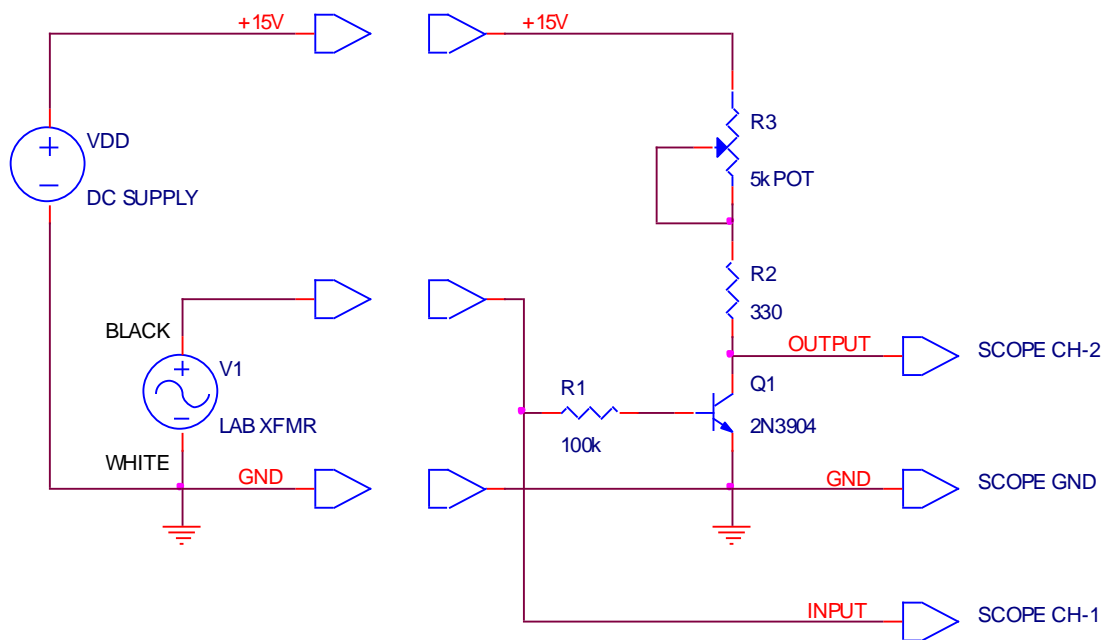

Figure E2.1
Set-Up Using the solderless breadboard, construct the circuit shown in Fig. E2.1 using the following components:
Turn the power switch OFF on the laboratory transformer and plug the unit into a 120 VAC line receptacle. Connect the transformer to the circuit board using leads from the black and white banana jacks as shown in Fig. E2.1. This will apply a 10 V peak sinewave to the circuit once the power is turned on.
Configure a DC power supply to implement the VCC DC source in Fig. E2.1. Use a pair of squeeze-hook test leads to connect the output of the power supply to your breadboard. Turn the DC power supply ON and initially adjust its output to +15.0 Volts. Initially adjust the R3 potentiometer for a value of zero ohms, i.e. the series combination of R2 + R3 should be just R2 = 330 Ω .
Connect a 10 \times probe to the BNC connectors on each of the two input channels of an oscilloscope. Connect the probe from Ch-1 to the input end of R1 to monitor the input signal, and connect the probe from Ch-2 to the output node between R2 and Q1 to monitor the output signal, as shown in Fig. E2.1. Both oscilloscope probe ground leads and the ground lead from the DC power supply should all be connected to the emitter lead of transistor Q1. Configure the oscilloscope to display both channels with a vertical scale of 5 V/div, which includes the attenuation of the 10 \times probes. Set the input coupling of both channels to DC, and make sure that channel-2 is not inverted. Set the timebase to 5 ms/div. Set the trigger mode to AUTO with a source of Ch-1. Finally center both traces on the center of the screen by switching the input coupling for each channel to GND, moving each trace to the center hairline of the screen using the position controls, and then returning the input coupling switches to the DC position.
The oscilloscope will now be used to directly display the voltage transfer characteristics (VTC) of this circuit. Do not change any of the connections from those of Fig. E2.1 and simply reconfigure the oscilloscope to display Ch-1 versus Ch-2 in an X-Y mode. Ground the inputs to both channels by setting the coupling switches to GND, and then switch the oscilloscope into the X-Y mode. Use the position controls to move the dot onto the cross-hairs in the exact center of the screen. Change the input coupling on each of the two channels back to DC and the display should now show the VTC. Sketch the VTC shown on the oscilloscope screen in your notebook.
- (c) Explain why R_1 is needed in the circuit of Fig. E2.1. I.e., why can't the lab transformer be directly connected to the base of Q1? If this totally stumps you, short out R_1 in the circuit and see what happens; just be prepared to buy a new 2N3904 from the stockroom, along with some new transformer fuses!